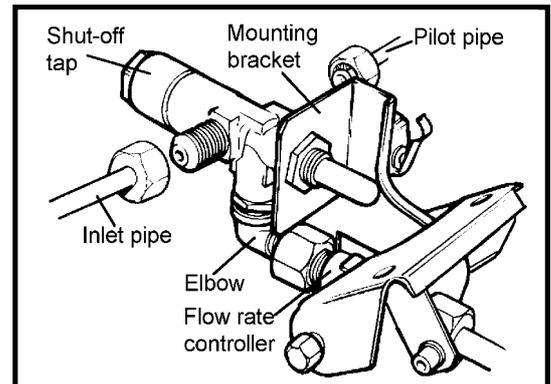

Fig. 47 Shut-off tap (viewed from rear with burner turned over)
13.10 To remove the shut-off tap(see figure 47)